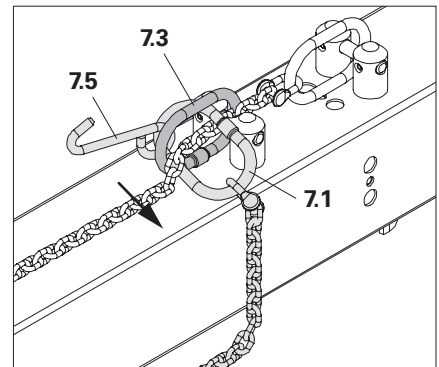

Fig. A3.05b
4. Insert ring 1 (7.1) with hook (7.5) through ring 3 (7.3) and pull through. (Fig. A3.05b)